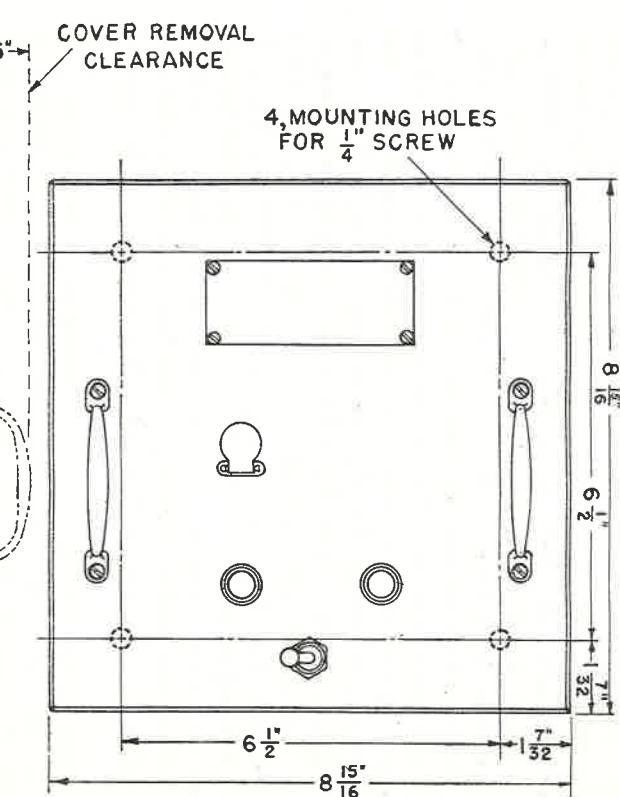

FIGURE 1.—Interphone amplifier BC-367 or BC-687.
*a. Interphone amplifier BC-367 (fig. 1).*—This unit consists of a panel and tube chassis assembly fitting into a sheet steel box. The entire unit can be removed from the box as electrical connections are